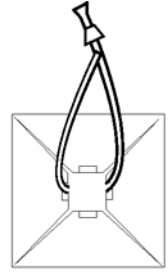

Figure 5. Tie wrap anchor
8. Install tie wrap anchors on the top of the freezer as shown in Figures 5 and 6.